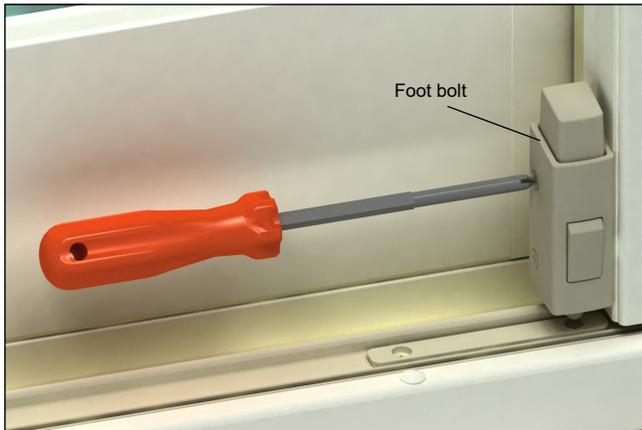

Figure 5
6. Fasten the foot bolt to the door panel with the supplied #8 x 2 3/4" screws. Check lock for smooth operation See figure 5.